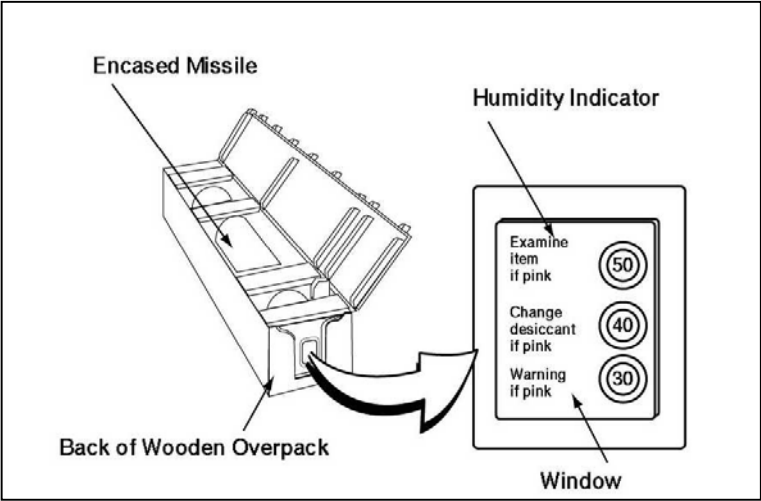
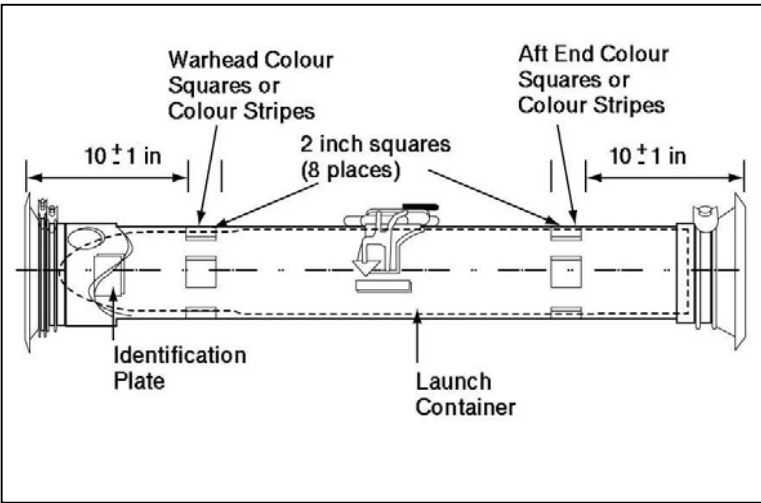

Figure 5-2-1: Wooden Overpack Shipping Container
Figure 5-2-2: Location of TOW Encased Missile Identification Plate and Colour Codings
9. **TOW Encased Missile Colour Coding, Shipment and Storage Data.** The TOW encased missiles are normally shipped and stored in wooden overpacks (see Figure 5-2-1) to protect them from shocks caused by being shaken and/or dropped. The overpack contains the encased missile and padding around the missile. The launch container is part of the encased missile and provides protection for it. Take care in handling and moving the encased missile. The TOW encased missile colour coding, shipment and storage data are shown in Figure 5-2-2.